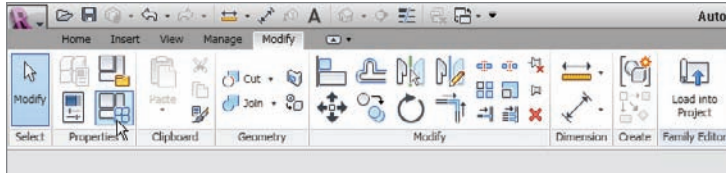

FIGURE 17.8 The Family Types button on the Properties panel
1. On the Properties panel, click the Family Types button, as shown to the left in Figure 17.8.